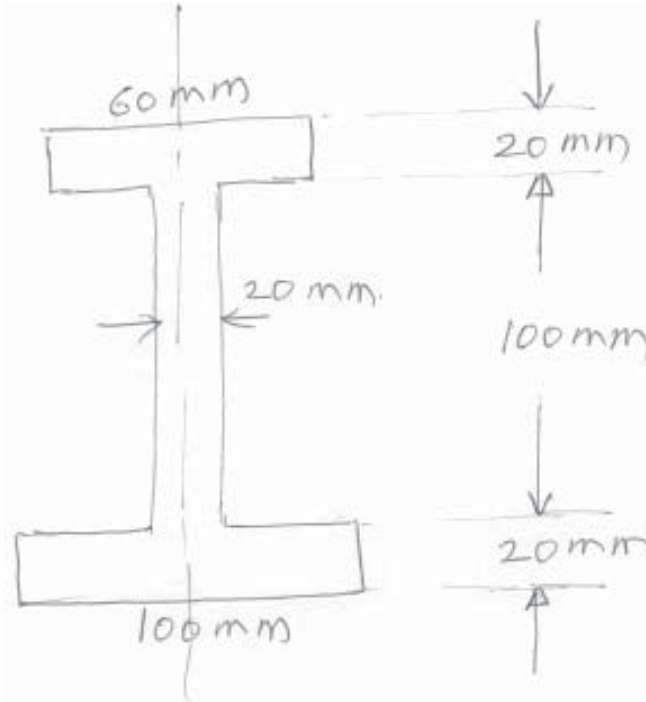

Fig. 3
- b) A beam of I section, as shown in following Fig. 3 is simply supported over a span of 4 m. Determine the safe load, the beam can carry per meter length, if the allowable compressive stress in the beam is 30.82 N/mm^2 .